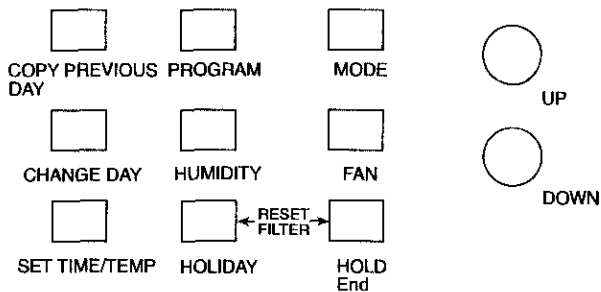

Fig. 31 — Light Commercial Thermidistat™ Keypad
Step 4 — Set Light Commercial Thermidistat Configuration (Fig. 31 and 32) — Configuration options, like DIP switch settings, are intended to be selected at installation and normally are not modified by the owner. These options must be made as part of the installation. A special procedure allows entry into the Configuration mode. While in configuration mode, up to 10 selections can be made. A description of each selection and how to use the Configuration mode are as follows: